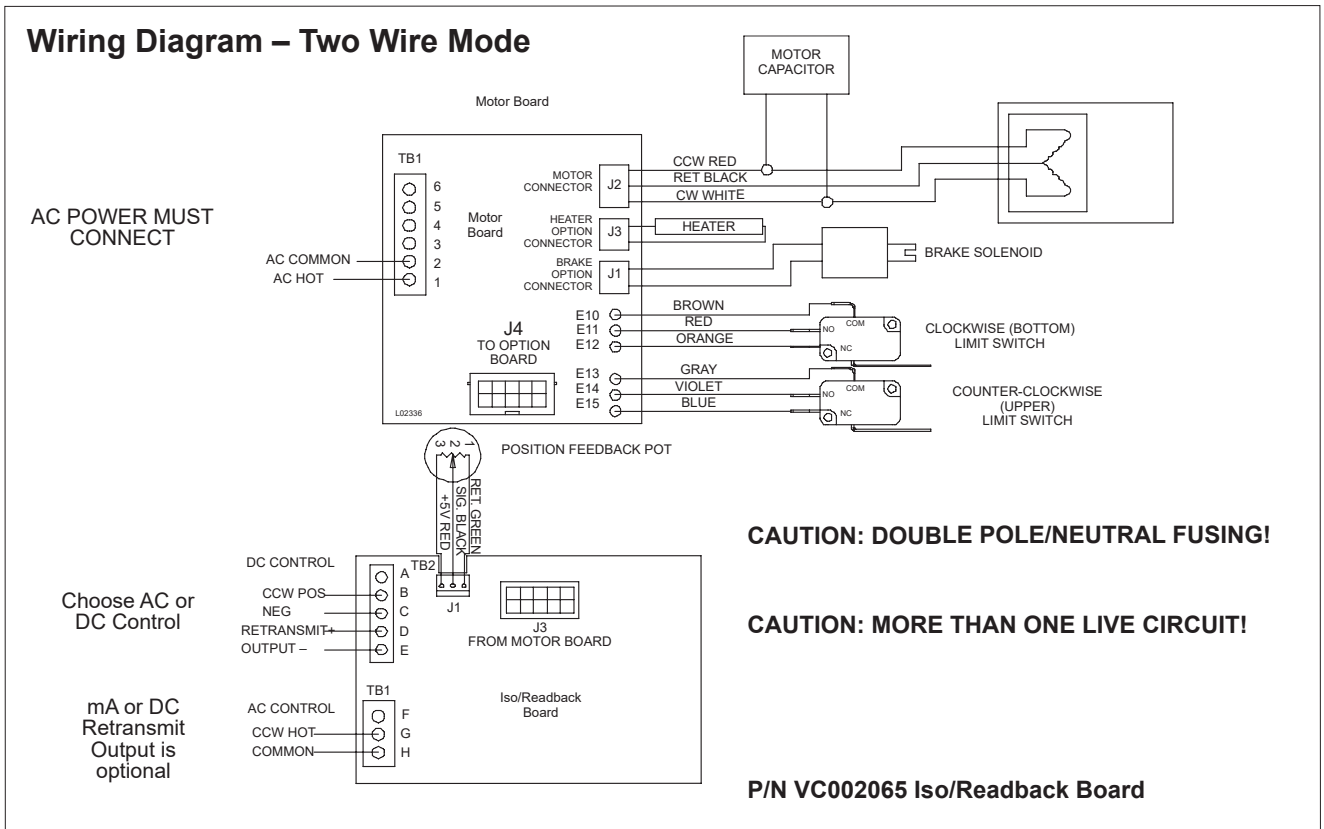

Figure 4.
3. Apply power according to desired mode of operation or use the manual override. (See Figures 4, 5 & 6)